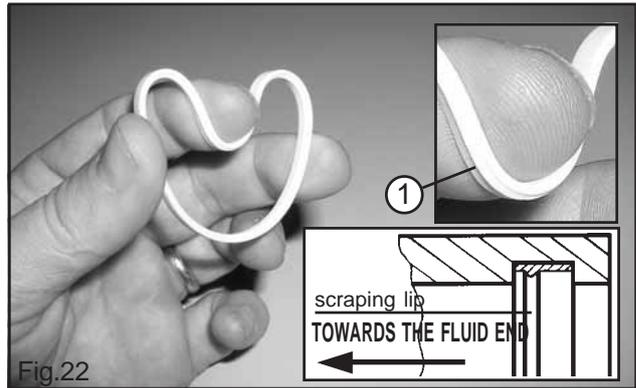

Fig.22
Remove scraper (1, Fig.21) and O'ring (2, Fig.22) from the packing support.
In order to fit the new scraper in place shape it manually as shown in Fig.22.
**VERY IMPORTANT!** the scraper is provided with an internal lip which performs the correct scraping effect only if oriented towards the fluid end. See window inside Fig.22.